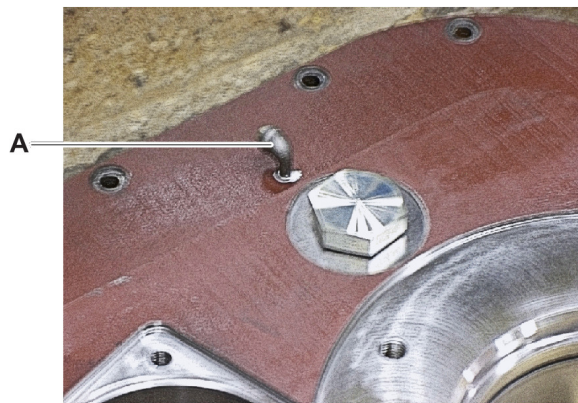

Figure 4
8. Install an elbow with a relief fitting (Figure 4, item A) into the housing cover. Loosely fit the oil filler plug with the O-ring into position.